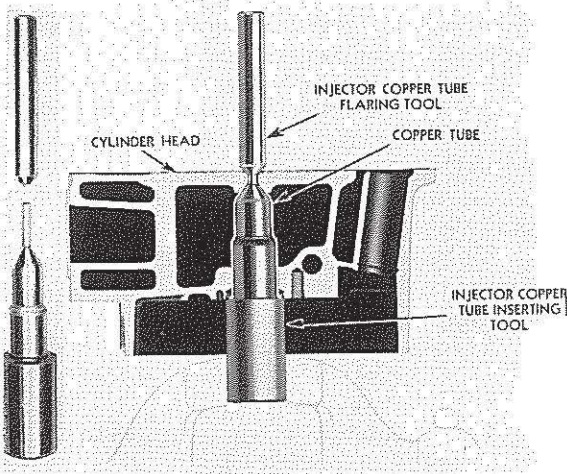

FIG. 27
3. After driving tube into position, support driving tool in vise, point up and inside of tube. Slide flaring tool down over small end of driver tool andpeen lower end of tube into flare of cylinder head by rotating the flaring tool. See Fig. 27.